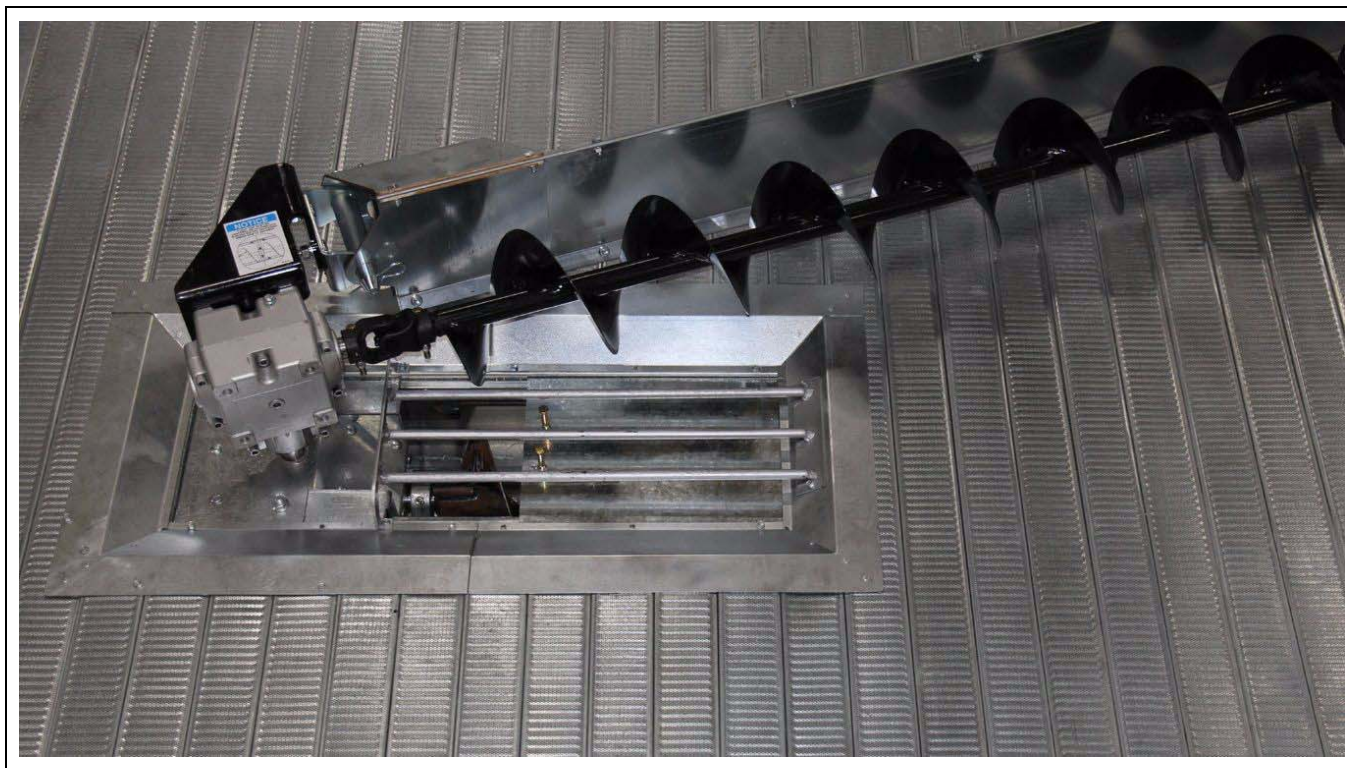

Figure 6A
8. Position the bin sweep above the intermediate gates or such that the intermediate gates are just in the front of the sweep. (See Figure 6A.)